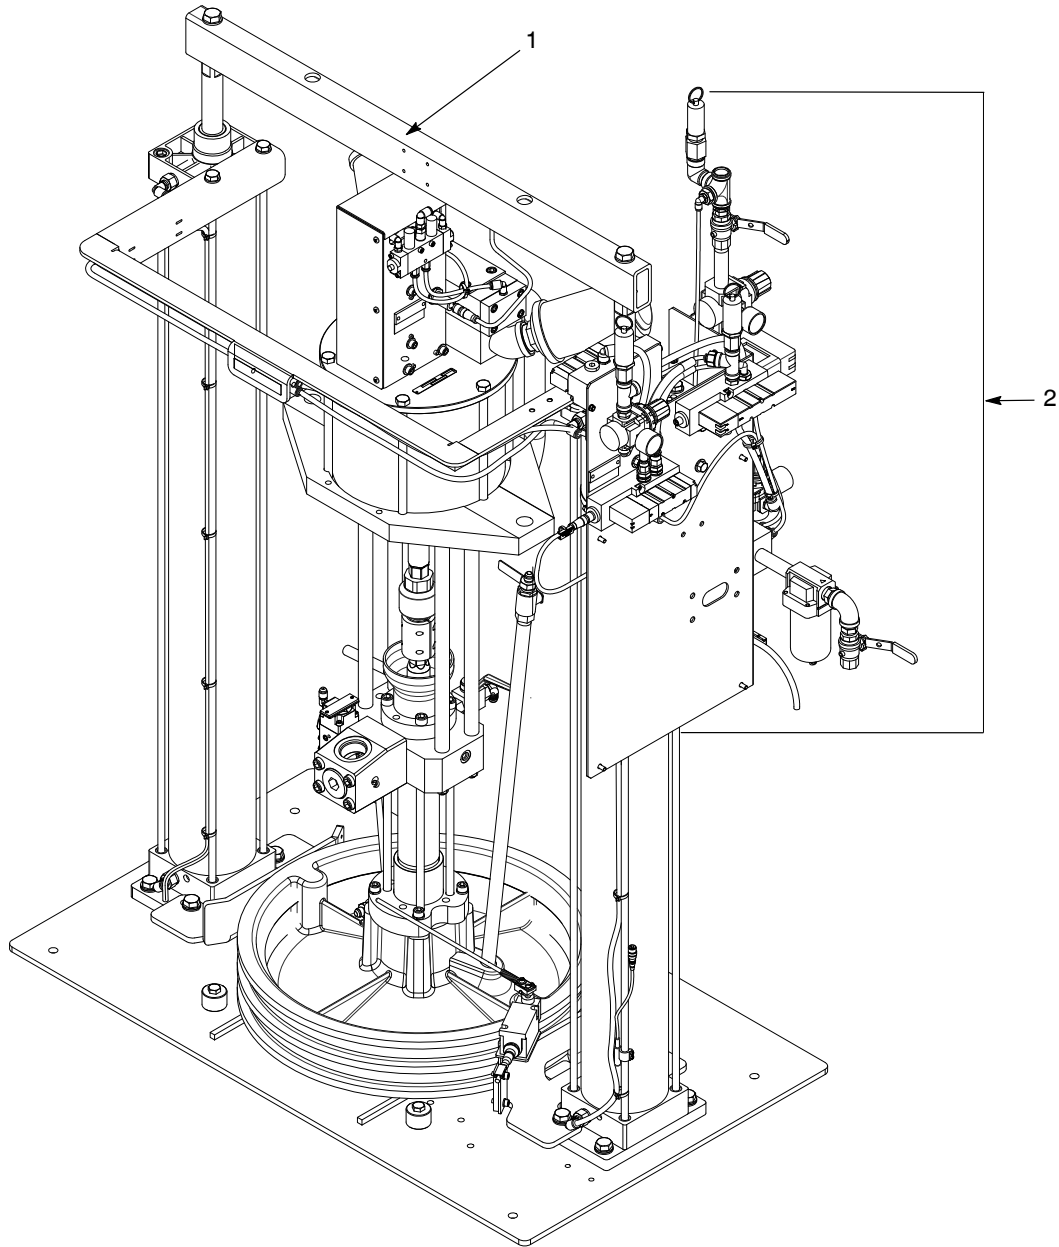
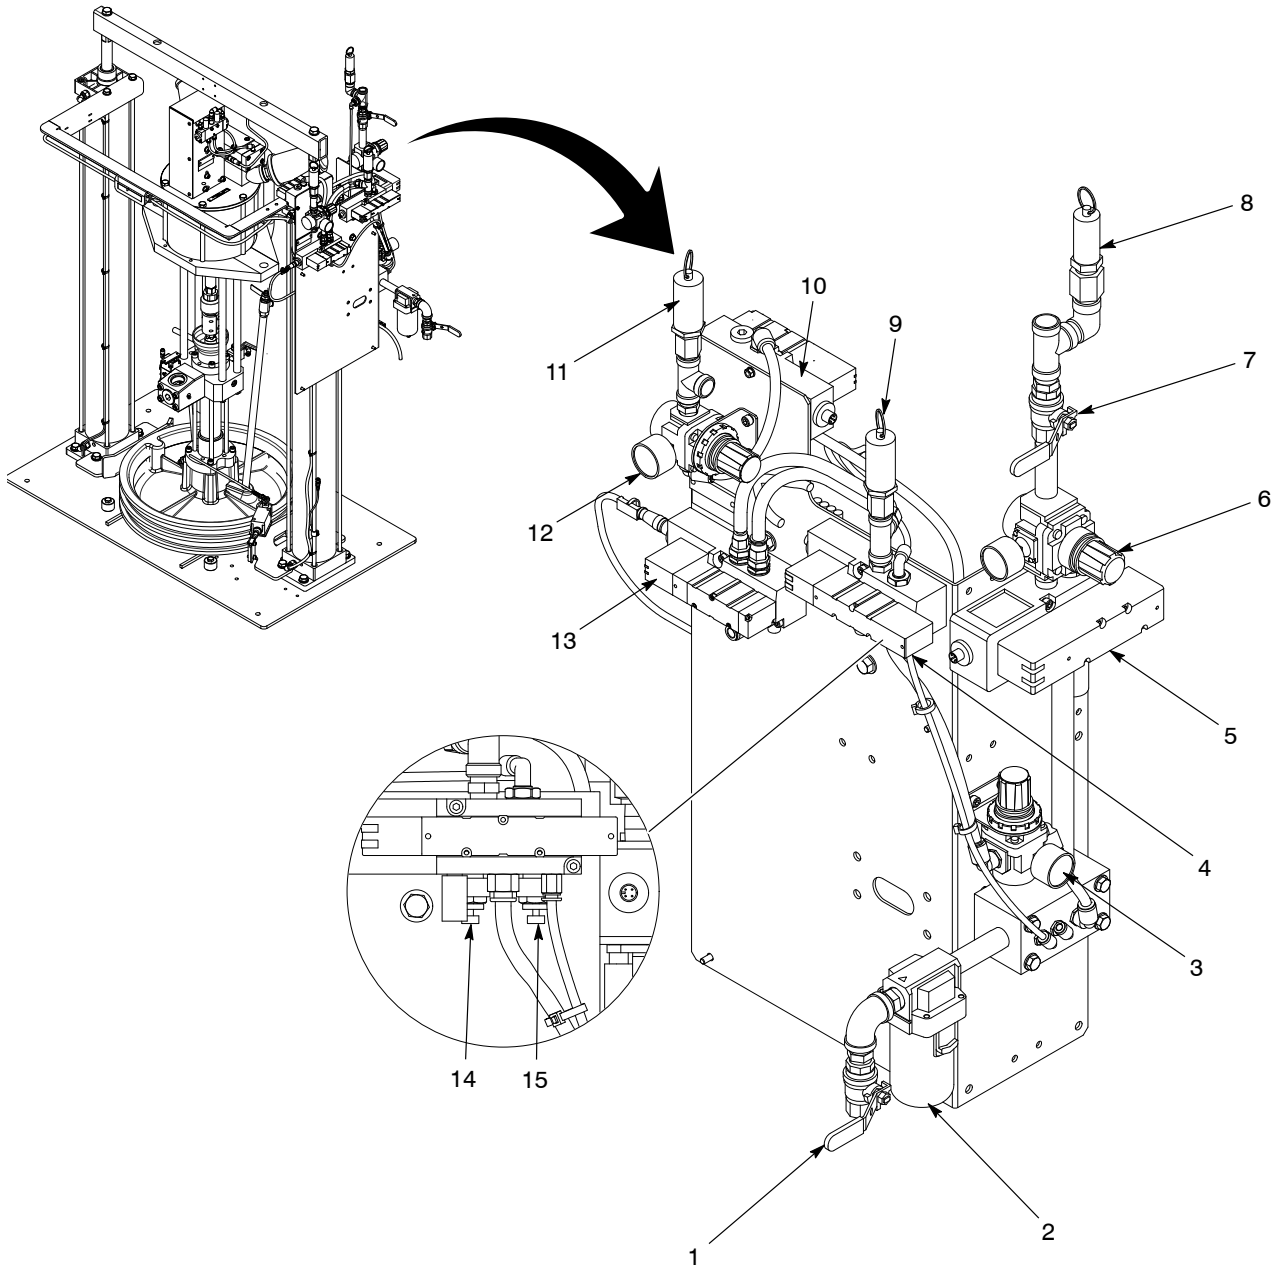

Figure 1 Rhino SD2/XD2 CE Control Module
Figure 2 Control Module Components
See Figure 1. The control module (2) provides the pneumatic operating functions for Rhino SD2/XD2 bulk unloaders (1). See Figure 2 and refer to Table 1 for a list of the control module components.